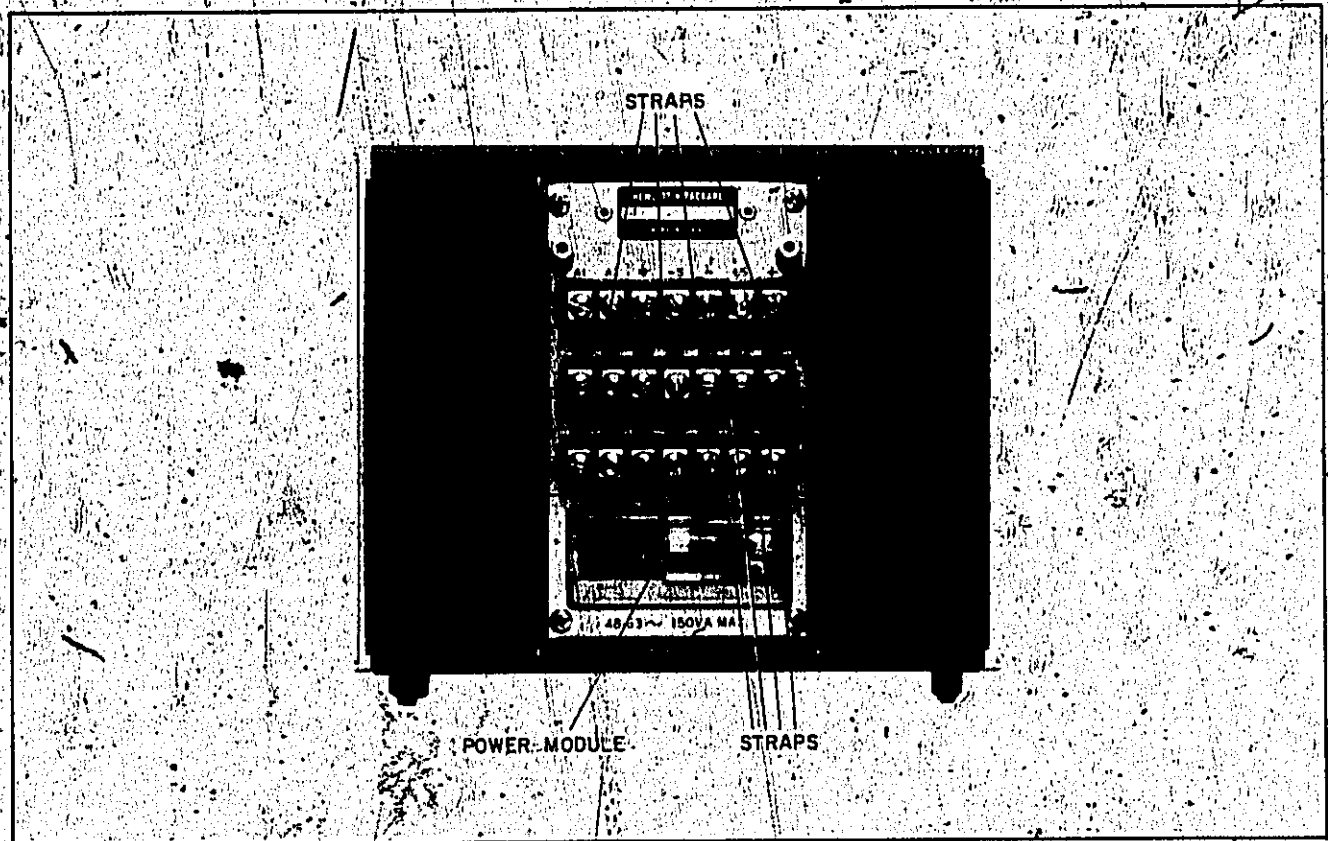
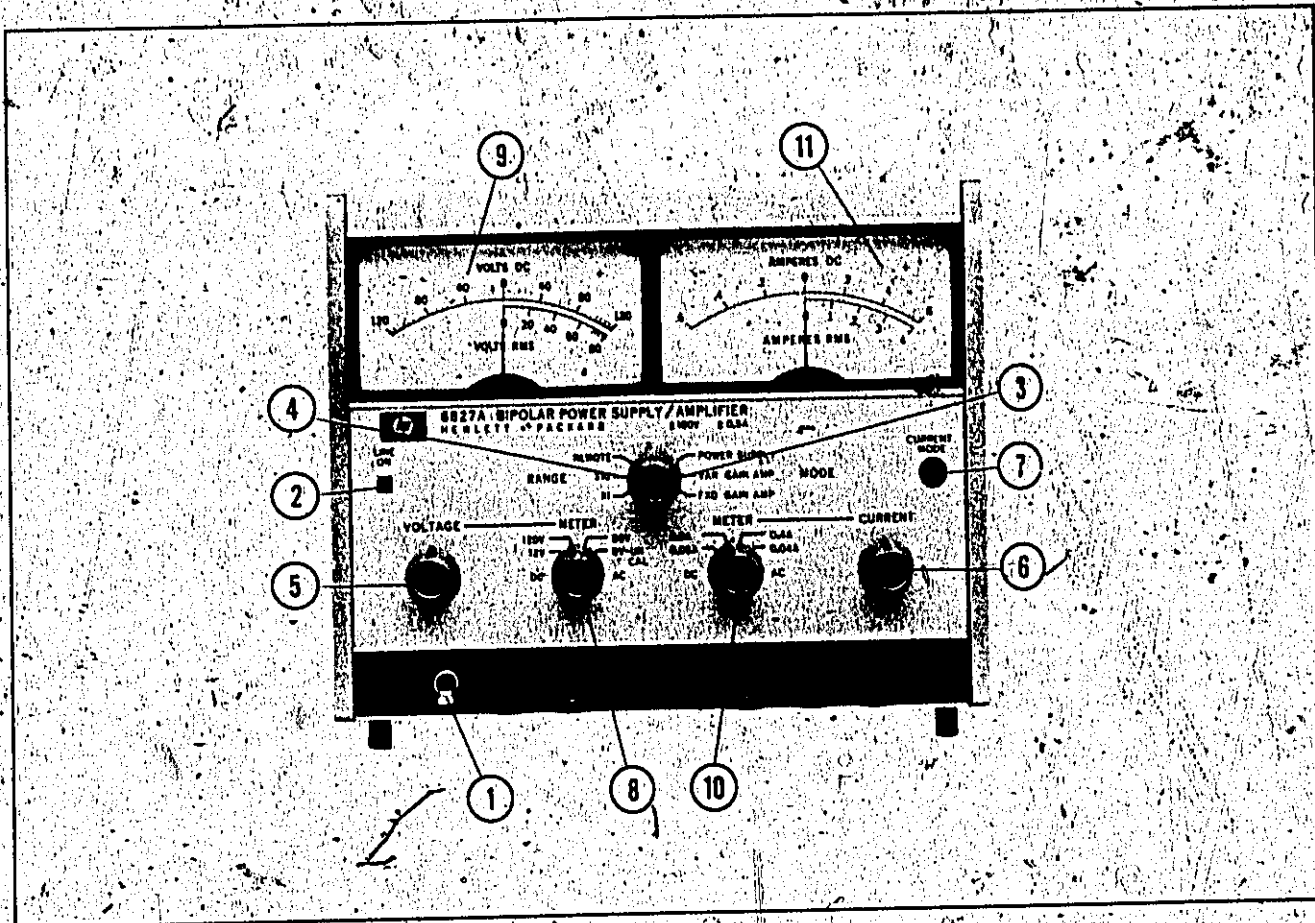

Figure 3-1. Bipolar Power Supply/Amplifier, Models 6826A and 6827A, Rear View
Figure 3-2. Operating Controls and Indicators
3-4 The Bipolar Power Supply/Amplifier (BPS/A) is shipped with the rear terminals strapped for local programming (using front panel controls) as shown in Figure 3-1. Remote programming strapping requirements are described in subsequent paragraphs. The power module contains fuse F1 (2A for 115Vac or 1A for 230Vac) and a slide switch for connecting 115Vac or 230Vac input power to the instrument. To turn on the BPS/A, set the LINE switch (item ①, Figure 3-2) to ON. The LINE ON indicator ②
3-21 The following turn-on and checkout procedures are performed utilizing the front panel controls (Figure 3-2) and the normal rear terminal strapping connections as received from the factory. Also, the Local/Auto switch, located inside the instrument on board A2, is in the Local position (pushed to the right or toward the rear of the instrument) as received from the factory. The AUTO position is used for auto-series and auto-parallel operations (see Paragraphs 3-57 through 3-61). The following procedures check both power supply and amplifier to ensure that the BPS/A is operational.